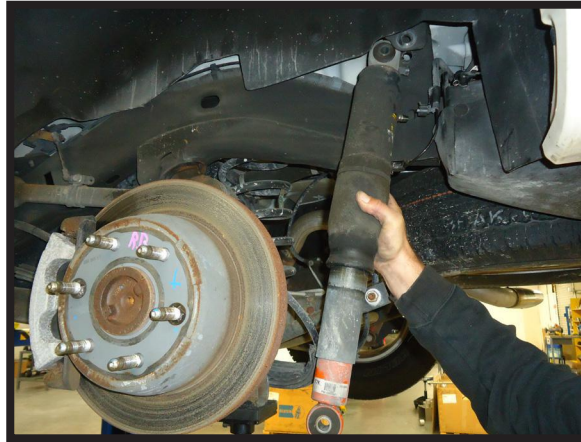

FIGURE 52
8. REMOVE THE AIR SHOCKS FROM THE VEHICLE. (FIGURE 52)